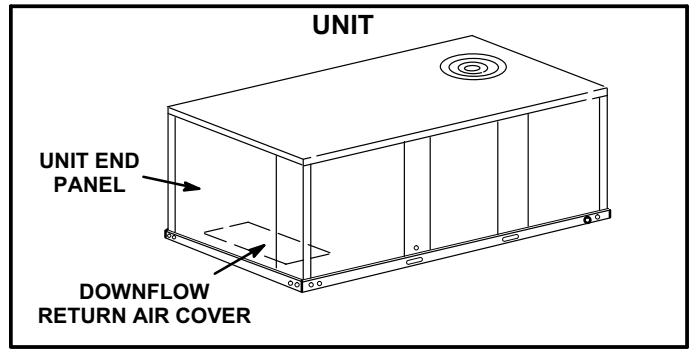

FIGURE 6
- 1- Remove unit end panel. See figure 6.
- 2- Install the downflow return air cover in horizontal airflow applications. See instructions provided with K1HECK and figure 6.